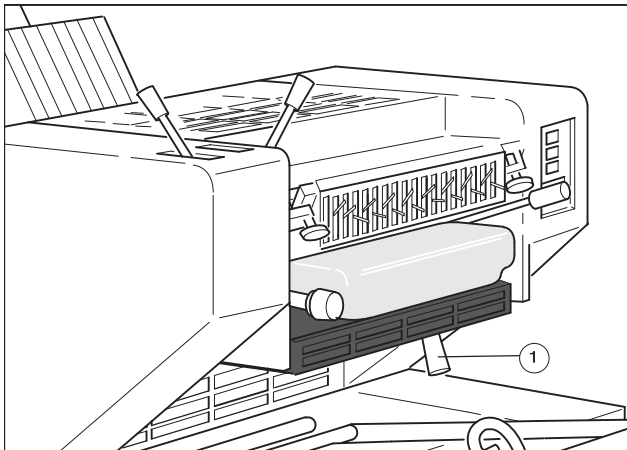

Fig. 21 Separating the inking unit and dampening unit
1. Move the lever (Fig.21/1) downwards to separate the dampening unit and inking unit.